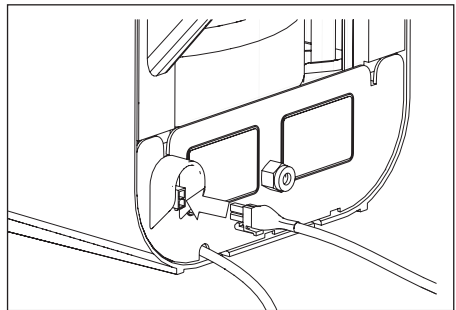

Fig. 7.4 Connecting wire to boiler connector
9. Connect the wire from the HotSpot Titanium 3-in-1 tap to the connector at the rear of the boiler (hook downwards) (**see fig 7.4**).